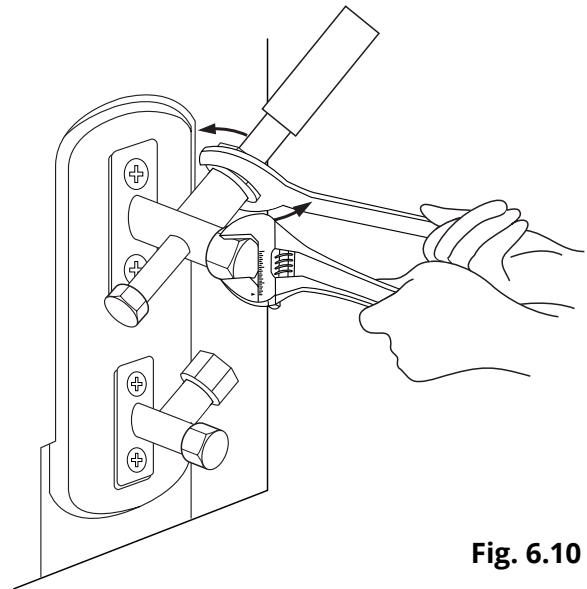

**Fig. 6.9**
1. Unscrew the cover from the packed valve on the side of the outdoor unit. (See **Fig. 6.9**)